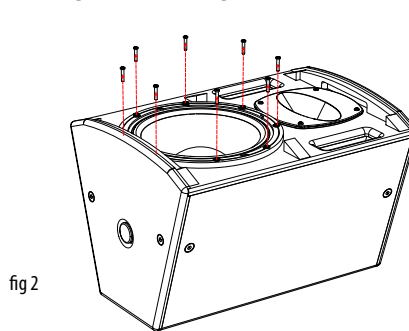

fig 2
2. Remove the M5 hex head bass driver fixings screws (fig 2).